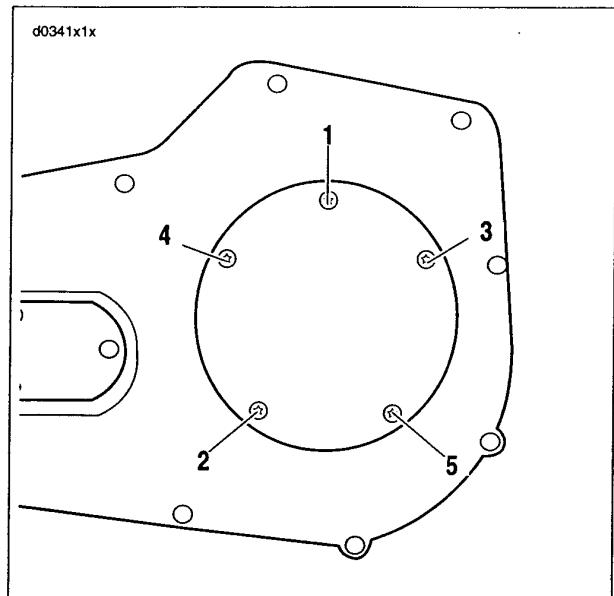

Figure 1-27. Clutch Cover Torque Sequence
- d. Attach clutch inspection cover using five TORX screws with captive washers. Tighten to 84-108 In-lbs (9.5-12.2 Nm). Follow torque sequence shown in Figure 1-27.